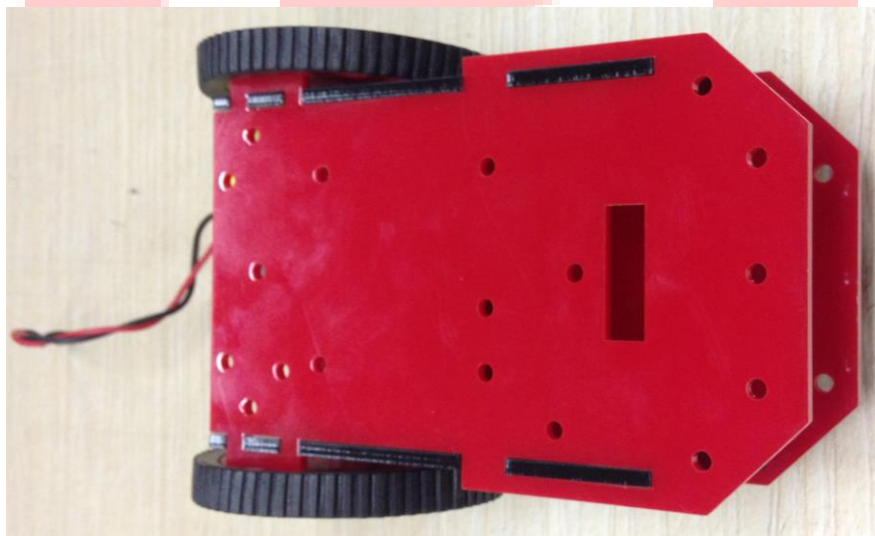

Figure 8: Assembled Bot
Step 4: Complete the Structure by placing the Top Plate over the assembly made in Step 3 as shown in Figure 8.